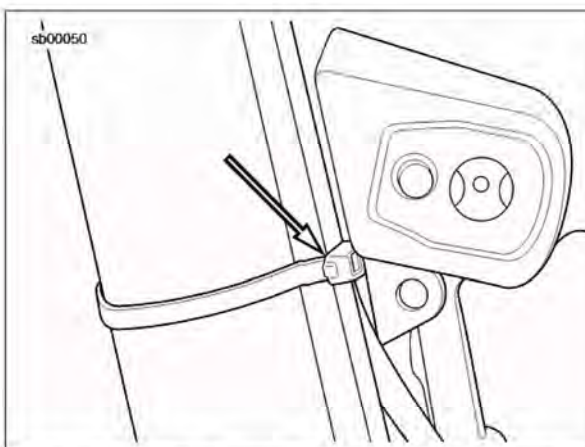

Figure 3. Cable Strap Location (turn signal removed)
6. See Figure 3. Install the cable strap around the fork tube and brake line between the upper and lower fork clamps just below the turn signal.